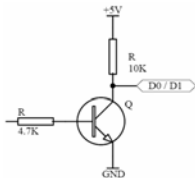

Figure 1
1. Wiegand output interface (See Figure 1)